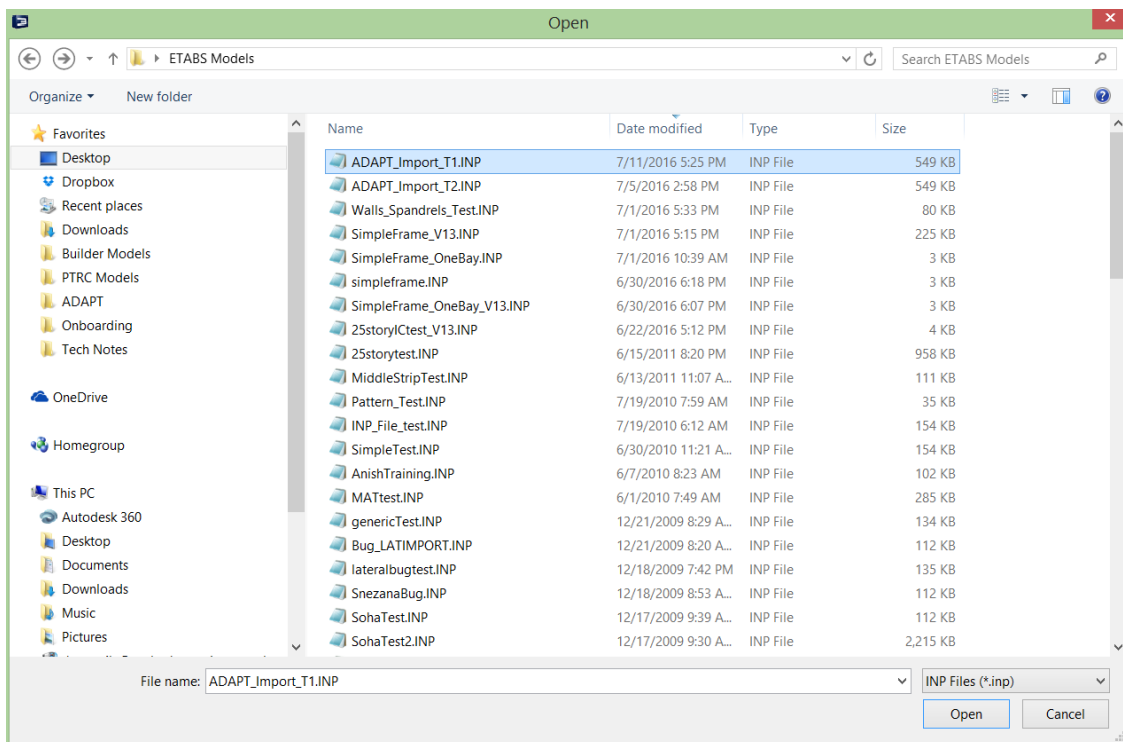

Figure 12 ADAPT Data Exchange File Open Dialogue Window
- In the *Open* dialogue box (**FIGURE 12**), navigate to and select the ADAPT model exchange file that was created previously.